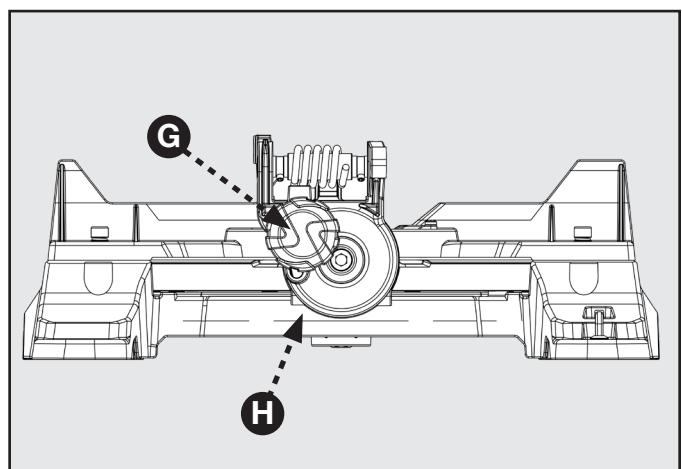

FIGURE 14
10. If the top or bottom of the blade face is not flush with the square, refer to Figure 14 below and perform the following steps.
11. Loosen bevel lock knob (G).
12. Adjust positive stop adjustment screw (H) to bring saw blade into alignment with the square. See "Positive Stop Screw" in the Adjustment section.